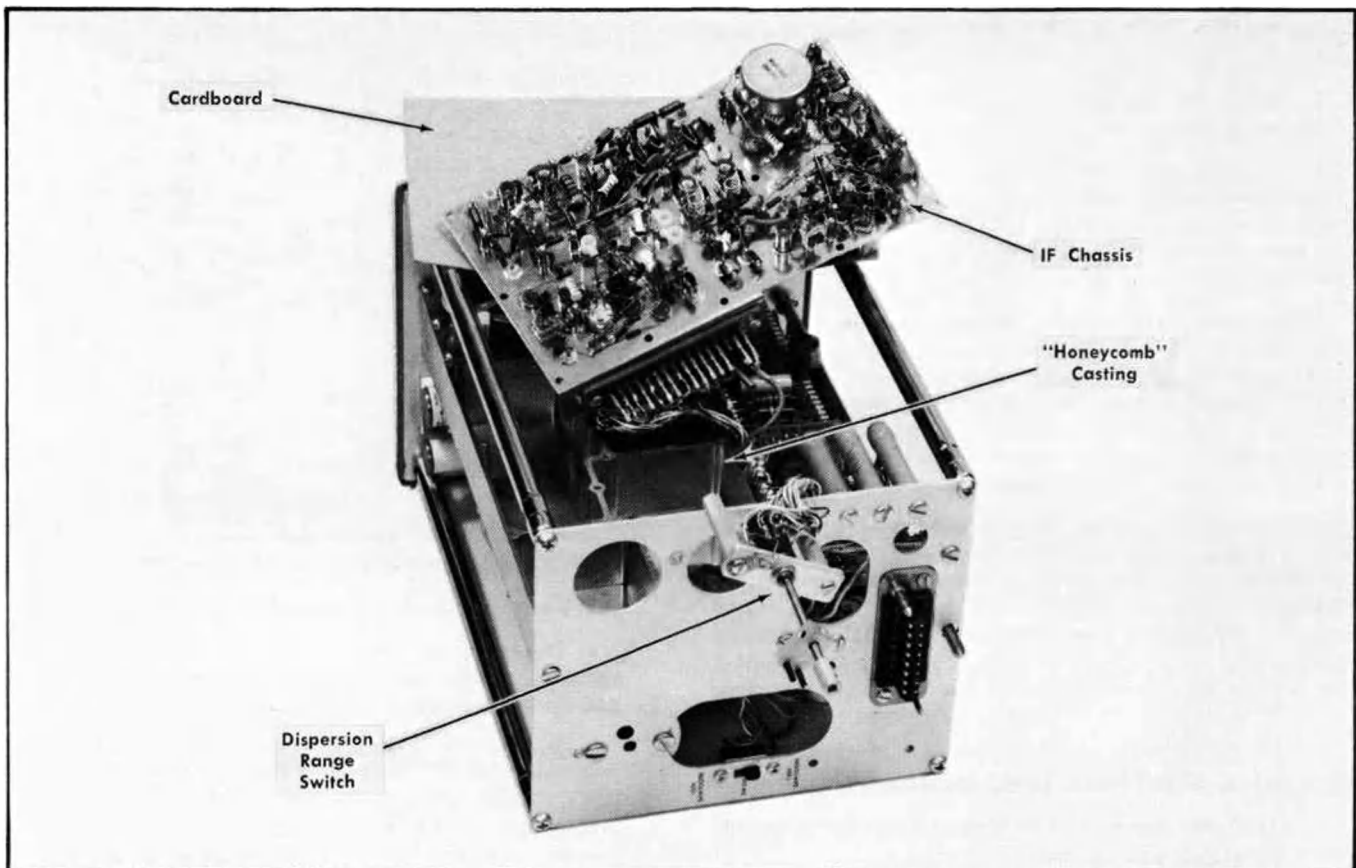

Fig. 4-5. One method of removing the IF chassis for troubleshooting.
4. Swing the chassis up and out, to rest on the instruments spacer bars (see Fig. 4-5). It may be necessary to disconnect the coaxial cable from J147. Do not use force, as some of the parts are critically positioned and should not be moved out of adjustment.